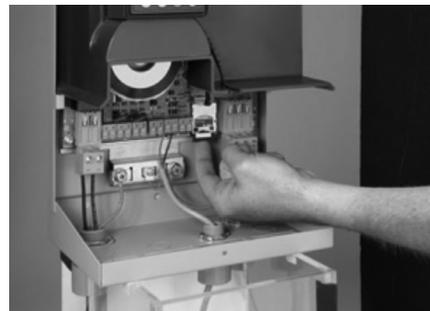

Figure 8-20: Software Version
3. Remove the plastic guard from the SD card slot (Figure 8-20).